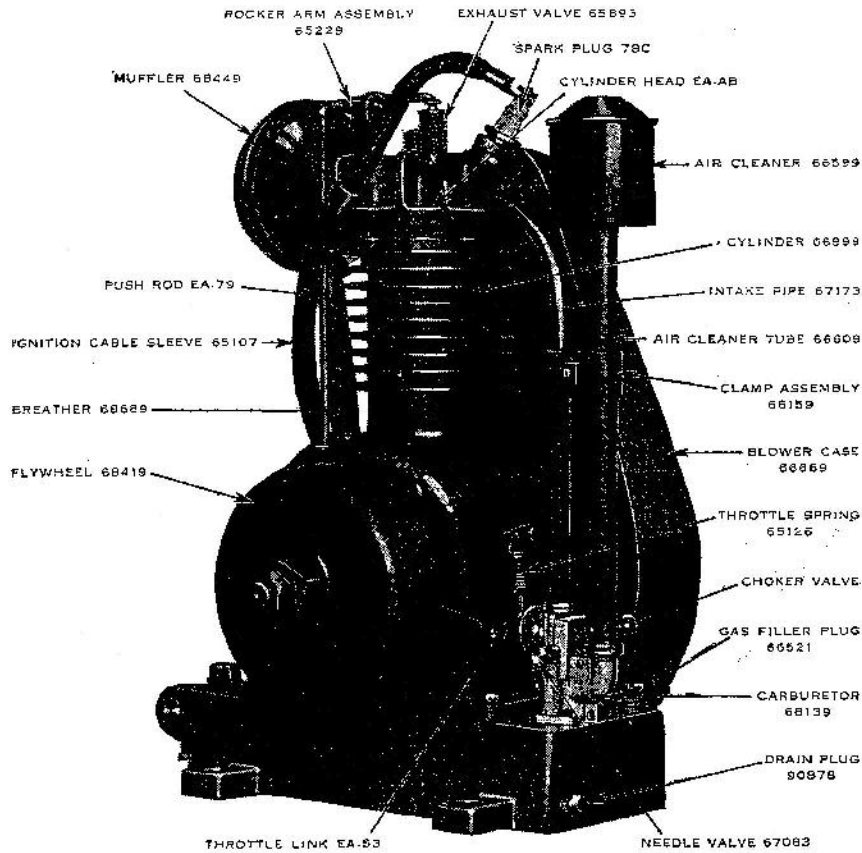

FIG. 1—MODEL "FH" MOTOR
18. First turn the choke valve, located in the choke tube, into the closed position to choke carburetor (See Figures 1 and 2). Closing the choke shutter chokes off air going to the carburetor the same as the choke on an automobile.